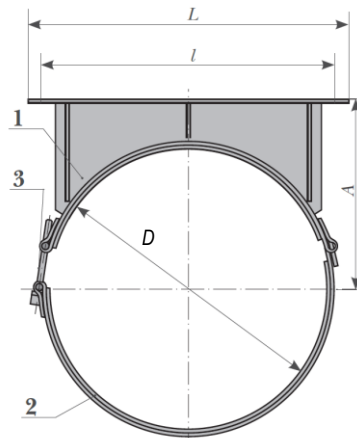

Fig. 35. Fixing clamp of rigid type XЖ
- XЖ type fixing clamp (Fig. 35);